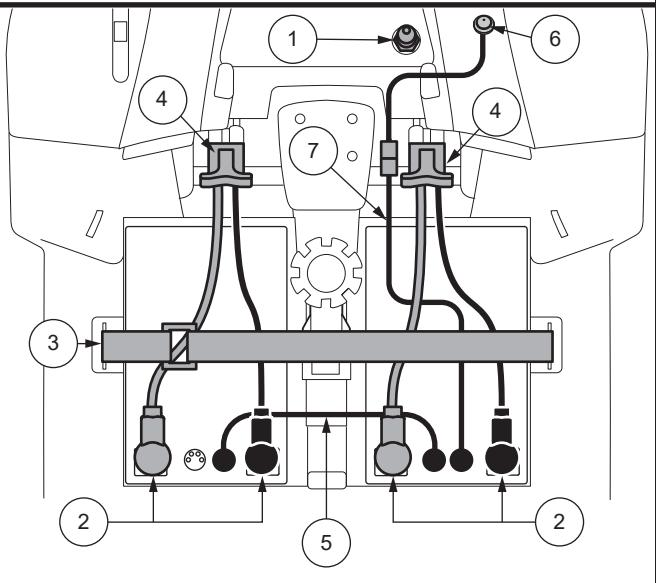

Figure 12. Battery Removal/Installation Terminals and Connections
3. Unplug both battery harnesses by pulling each harness out of its mating plug. See figure 12.
7. Place a new battery in each battery well. Face the battery terminals of each battery away from the seat post with the positive (+) and negative (-) battery terminals positioned as shown in figure 12.
**WARNING!** When faced with an emergency situation, the batteries can be quickly disconnected by pulling FORWARD on the emergency battery disconnect strap. Use caution. Be advised that turning off power to the scooter may cause the scooter to stop abruptly. To release the emergency stop and restore driving capability to the scooter, remove the seat and battery shroud, and reconnect the battery connector as shown in figure 12.
*NOTE: If equipped, ensure that the battery disconnect switch is in the “on” position (-) prior to charging your vehicle’s battery. The battery will NOT charge if the battery disconnect switch is in the “off” position (O). See figure 12.*
**WARNING!** When faced with an emergency situation, the batteries can be quickly disconnected by pressing the battery disconnect switch into the “off” position, which will cause the button to pop up. Use caution. Be advised that turning off power to the scooter may cause the scooter to stop abruptly. To release the emergency stop and restore driving capability to the scooter, press the battery disconnect button once again, pressing it down into the “on” position. See figure 12.